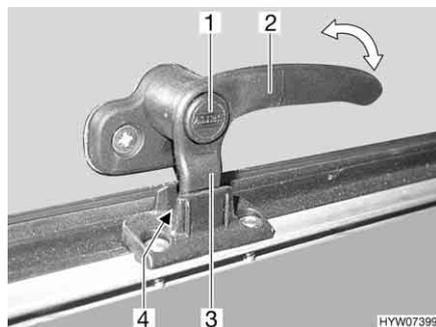
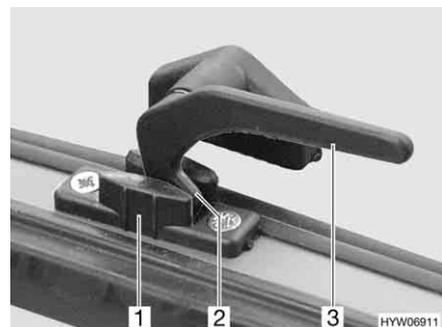

Fig. 100 Catch lever with safety knob in "continuous ventilation" position
Fig. 101 Catch lever in "continuous ventilation" position
- "Continuous ventilation" (Fig. 100 and Fig. 101)
- Press and hold the security button (Fig. 100,1), if present.
- Turn all catch levers (Fig. 100,2 or Fig. 101,3) a quarter turn towards the centre of the skylight.
- Return all catch levers to their initial position. The locking catch (Fig. 100,3 or Fig. 101,2) has to be moved into the recess of the skylight lock (Fig. 100,4 or Fig. 101,1).